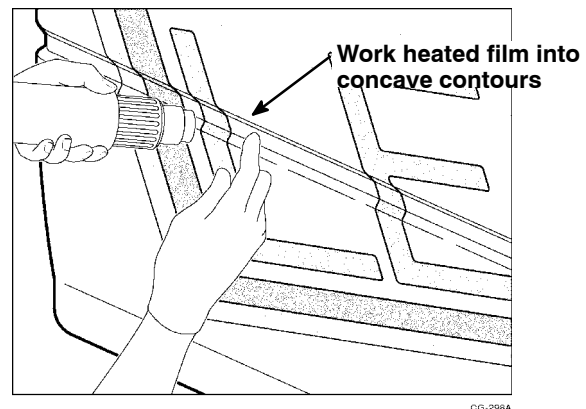

Figure 6. Working Film Into Concave Contours
6. Gently stretch, push or form the film into the concave area with your hands. Wear cotton gloves for protection. See Figure 6.